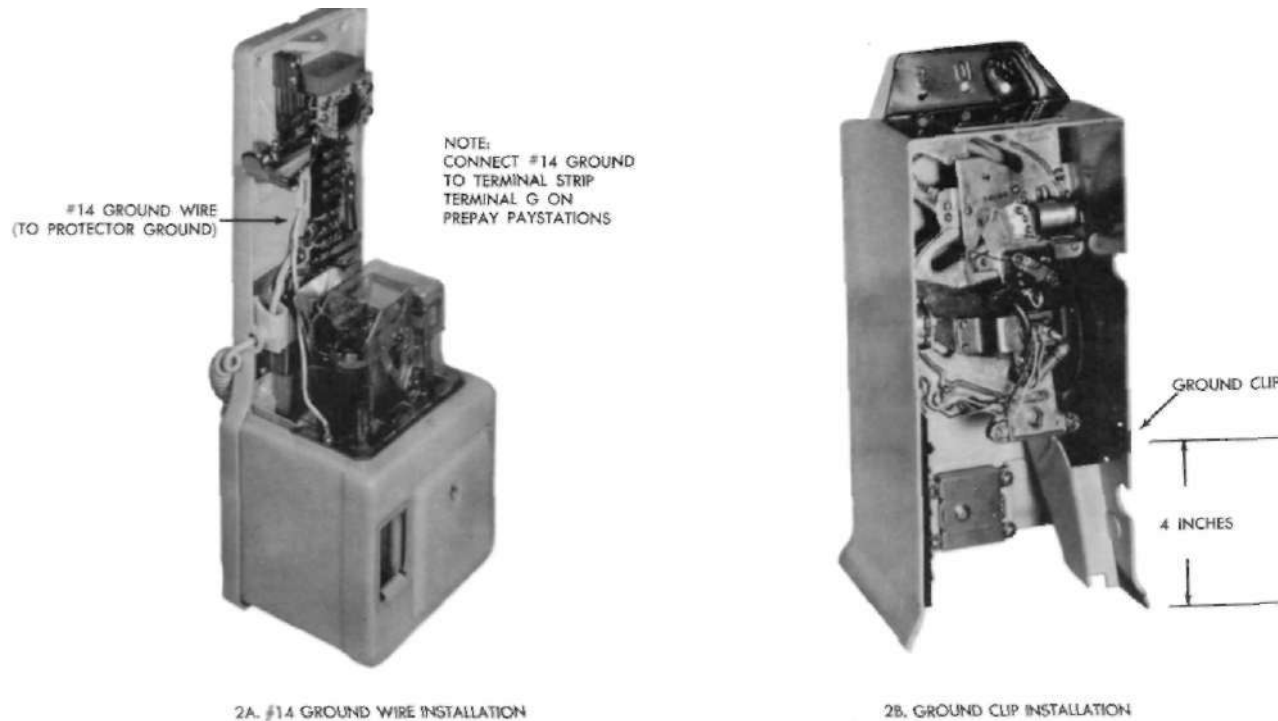

Figure 2. Paystation Grounding - Wall-Mounted or Mounted in Wood Booth
- (1) Solder a spade terminal to each end of an 11-inch #14 wire. Terminate one end under the mechanism base machine screw shown in Fig. 2. Route wire to avoid coin return chute opening and coin trigger and terminate the other spade terminal at the terminal strip ground terminal G. Solder a spade terminal to one end of a #14 wire (wire length sufficient to reach from terminal G through the lower housing wire opening and to the protector ground terminal). Terminate the spade terminal at terminal G. Route the #14 wire through the lower housing wire opening to the protector and wrap the end of the wire around the protector ground terminal.
- (2) At the point on the edge of the upper housing which will contact the equalizing spring when the upper housing is installed (see Fig. 2), remove sufficient paint from the inside surface so that a ground clip can make contact with the metal of the upper housing. Place a Tinnerman C-23405-012-3B ground clip on the upper housing at the point where it will contact the equalizing spring when the housing is installed.
- (1) Solder a spade terminal to one end of a #14 wire (wire length sufficient to reach from mechanism base mounting screw, through wire opening in lower housing to protector ground terminal). Terminate the spade terminal under the mechanism base mounting screw shown in Fig. 2. Route the wire through the lower housing to protector ground terminal (wire must be routed so that it does not obstruct coin return chute opening or coin trigger). Wrap the end of the wire around protector ground terminal.
- (2) Install a ground clip as described in paragraph 3.01 step (2).